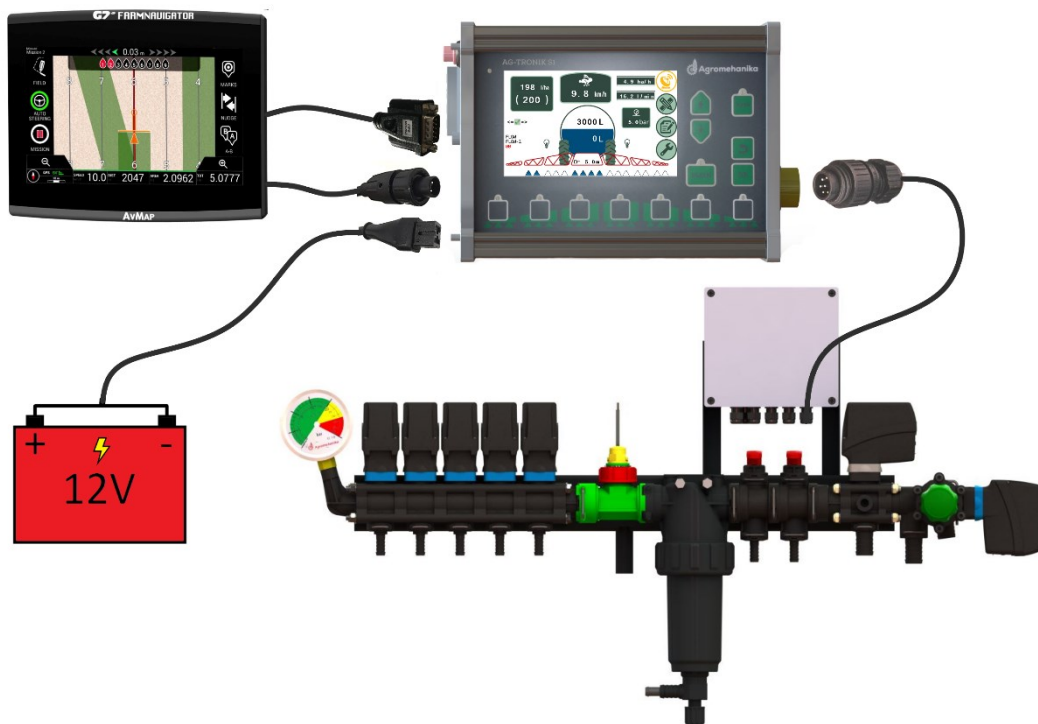

Figure 6
- Connect power supply in to the corresponding input of the AG-TRONIK (Figure 6).
- Connect regulator cable in to the corresponding input of the AG-TRONIK (Figure 6).
- Connect GPS device (both, power and signal cable) in to the corresponding input of the AG-TRONIK (Figure 6).